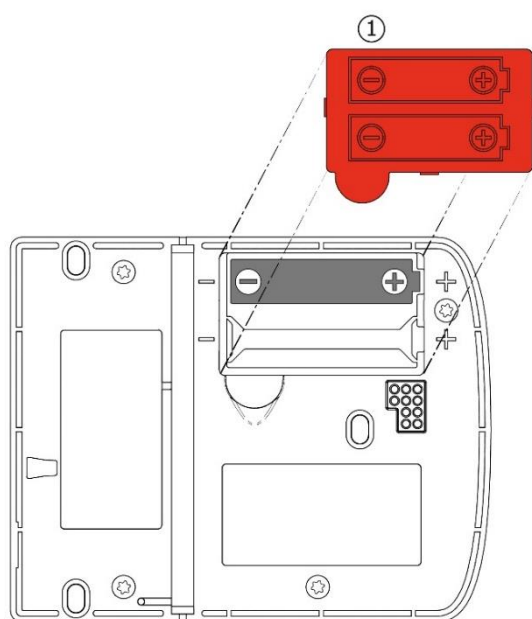

Figure 4.1 - Opening the battery compartment
- To access the battery compartment, remove the red battery cover (1 in Figure 4.1) on the underside of the housing by sliding a finger under the semicircular tab of the battery cover and pulling the battery compartment upwards.
- ▶ Ensure that the battery polarity is the same as shown in Figure 4.1.